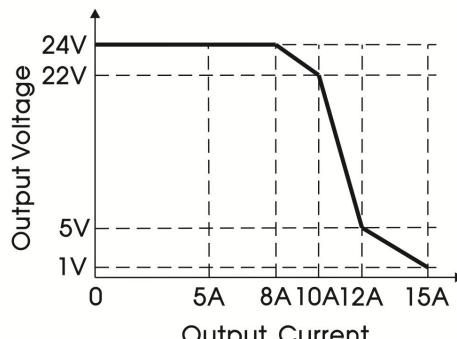

Figure 3
2.Figure 3 shows that the product will enter the overload state when the rated output current increases to 100%-150% $I_o$  (TYP.), and enter the overcurrent protection when the current > 150% $I_o$  (TYP.), and the output voltage will decrease with the increase of the output current. When the output current increases to a certain value, the product will enter the constant current mode;